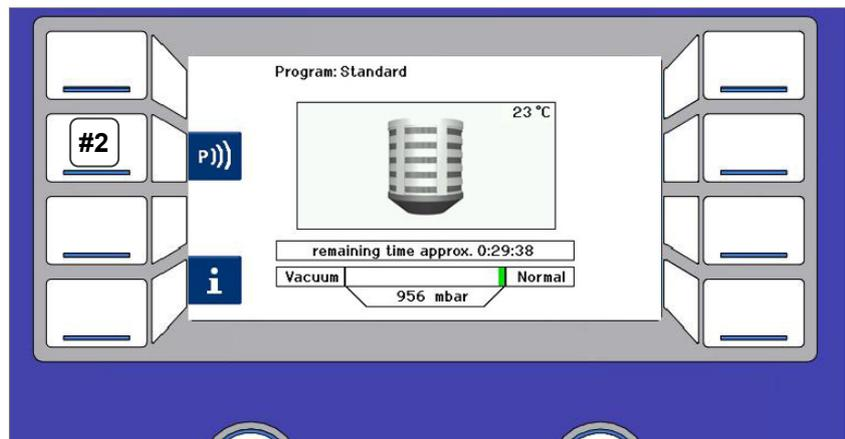

Fig. 15.2 Operating button #2
4. Press the operating button #2 (see *Fig. 15.2.#2*). The data transmission is performed.